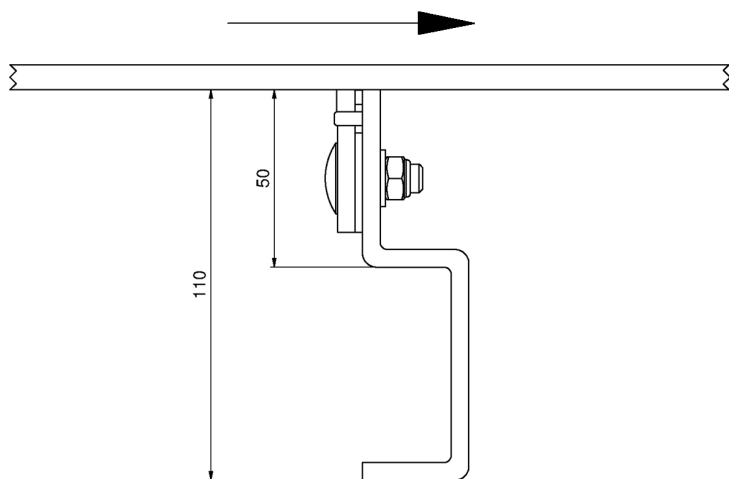

Fig.1. Scraper board +250° installed under the return run of the conveyor.
1.	The Hampus 9360 is placed on the underside of the return run as shown in fig. 1. The scraper is usually fitted to replace a return roller.